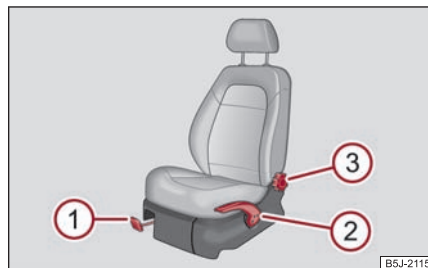

Fig. 64 Controls at seat
- Pull the lever ① ⇒ fig. 64 up and push the seat into the desired position.
- Release the lever ① and push the seat further until the lock is heard to engage. ▶